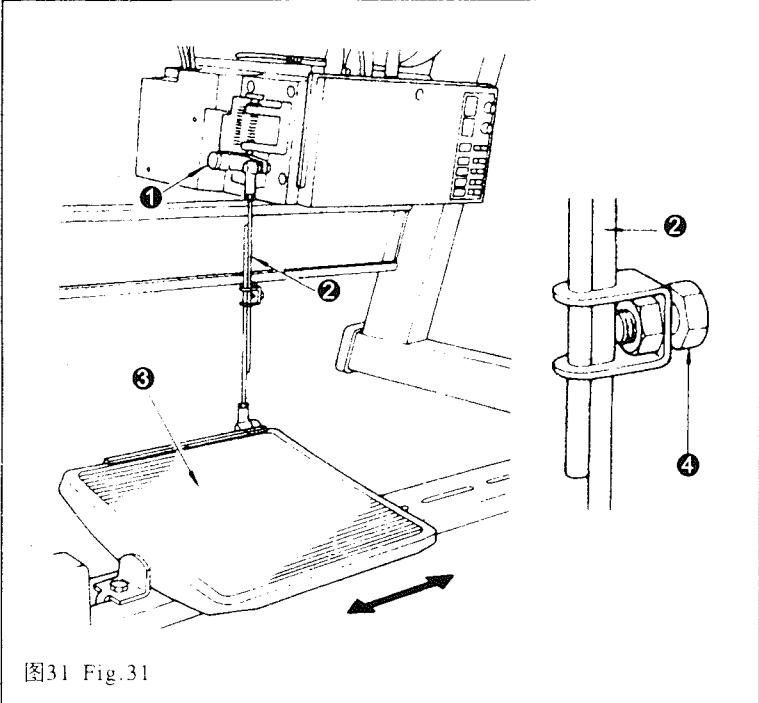

图31 Fig.31
24. 踏板的调整(图31)
24. ADJUSTMENT OF THE PEDAL (Fig.31)